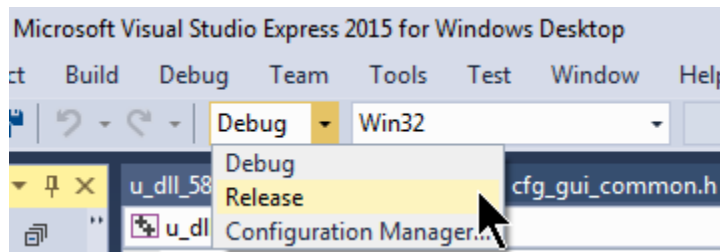

Figure 3: Visual Studio 2015 Release Configuration
7. In the top toolbar make sure the Release build configuration is selected as shown in Figure 3.